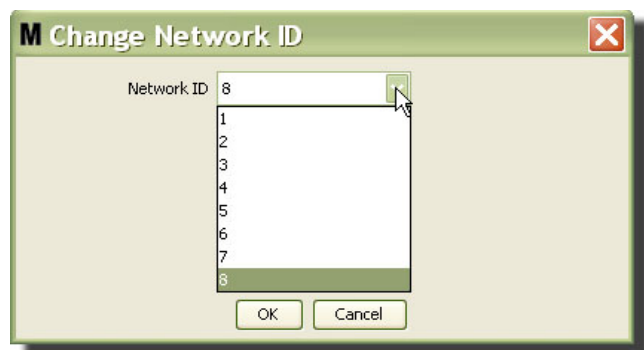

FIG. 85
3. From the drop-down menu of available Network ID numbers, select the Network ID number assigned to your location (FIG. 85). Click OK to close the screen and save the changes.